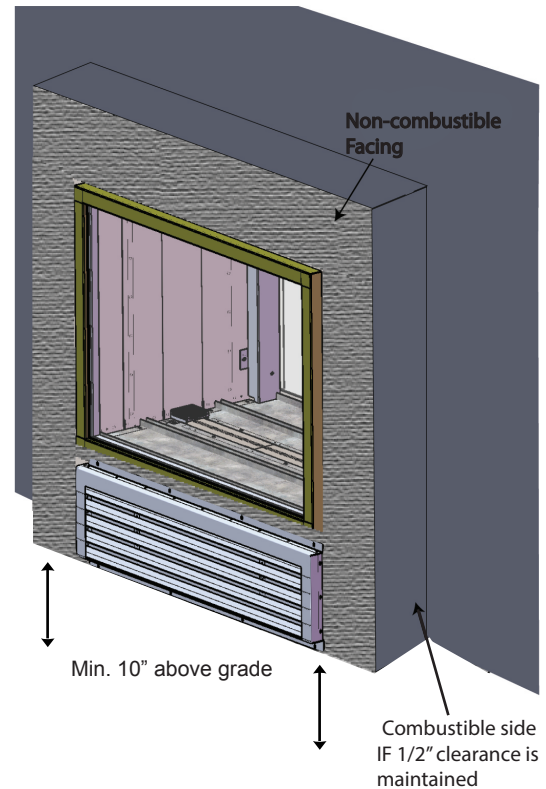

Figure 4d: Clearance above grade
STEP 1: Select a location such that the fireplace floor maintains a 10" clearance above grade (see Fig. 4d). The power vent module will expel high temperature flue gases through the louvers. When selecting the material for the hearth please keep in mind the potential for discoloration due to high temperatures.